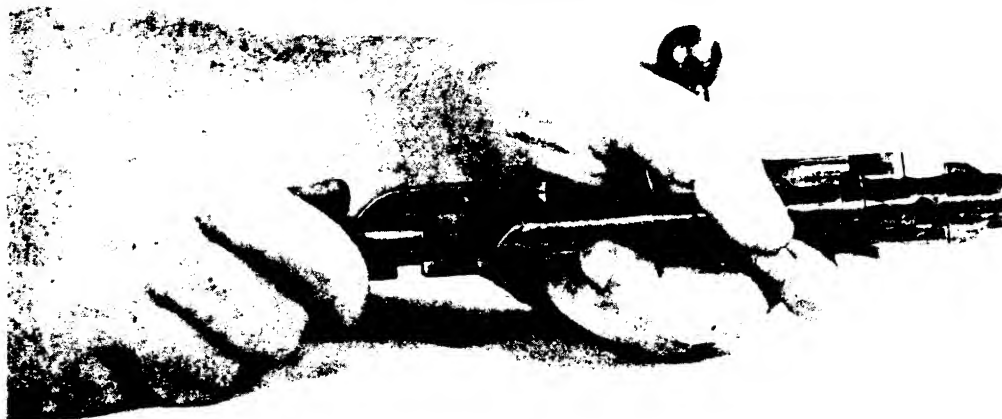
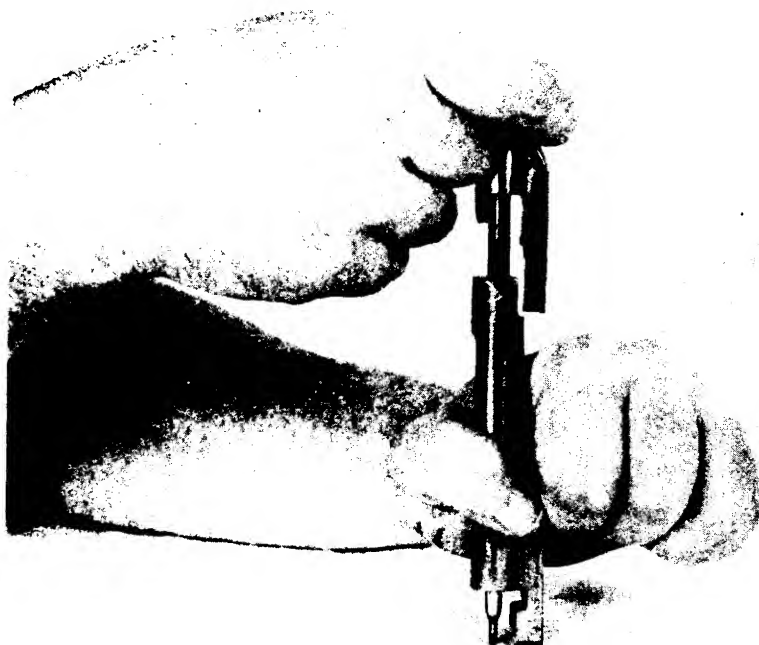
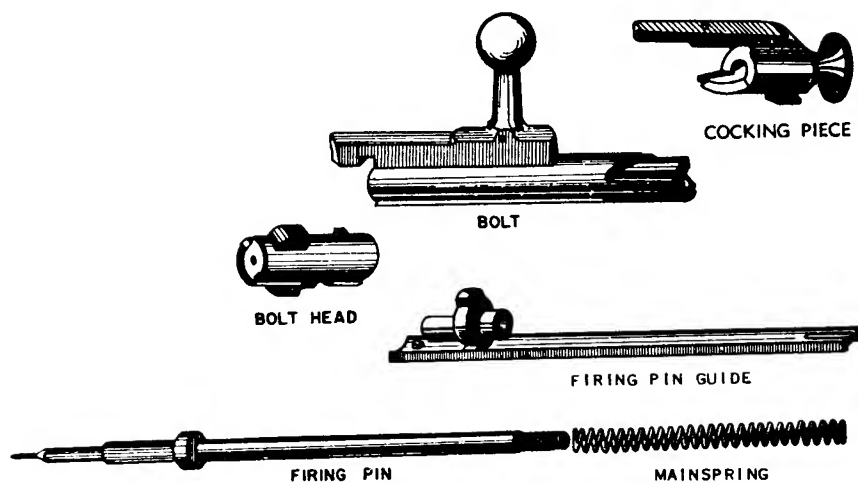

FIGURE 46. DRAWING COCKING PIECE BACK.
FIGURE 47. REMOVING COCKING PIECE.
FIGURE 48. BOLT ASSEMBLY COMPONENTS.
- (2) To disassembly the bolt, draw the cocking piece back and turn it to the left to relieve spring tension (fig. 46). Remove the bolt head and guide. Place the firing pin on a solid surface, push the bolt body down, and unscrew the cocking piece (fig. 47); then remove the firing pin and spring. The components of the bolt assembly are illustrated in figure 48.